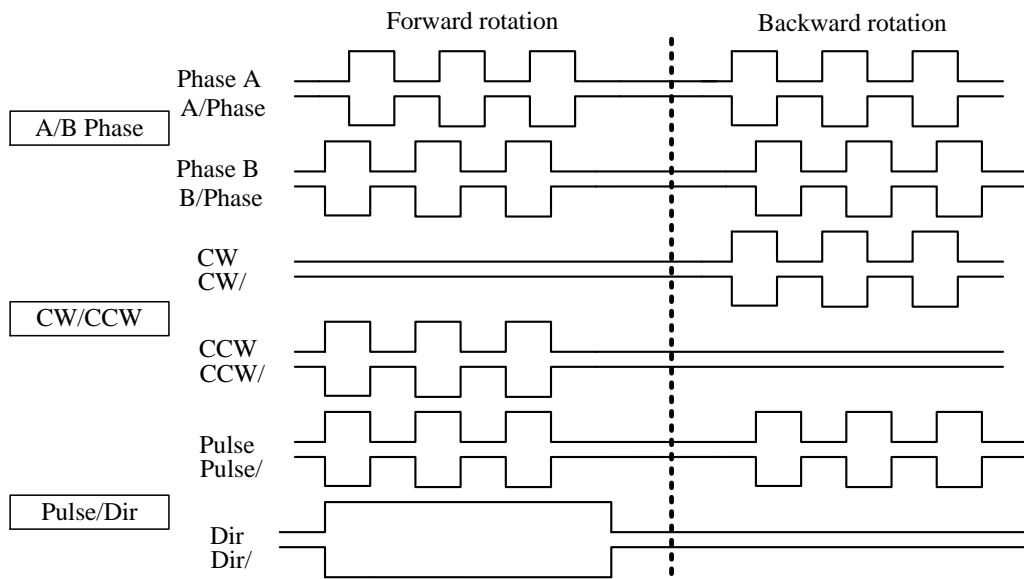

Fig.1-10 Diagram of Differential Pulses
(V) The differential signals sent out from IMP-6000S are in the pulse formats shown in Fig. 1-10.
(三) Pulse Output Formats (refer to Fig. 1-8 and Fig. 1-10)